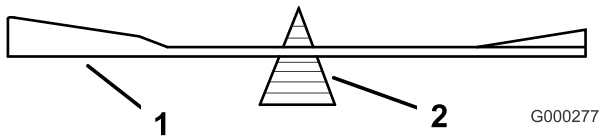
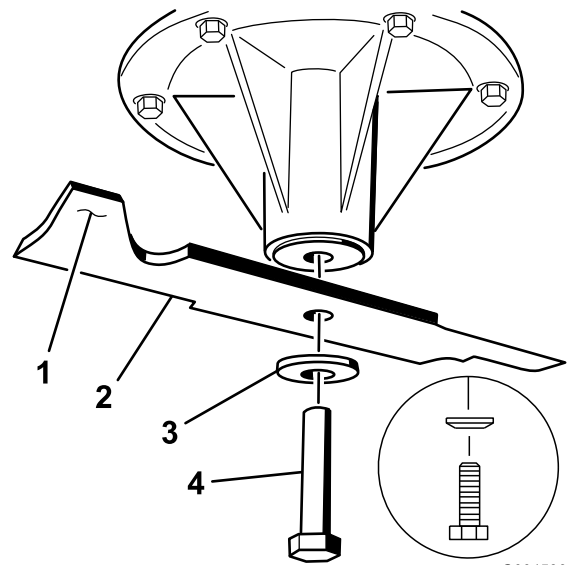

Figure 98
Figure 99
2. Check the balance of the blade by putting it on a blade balancer (Figure 98). If the blade stays in a horizontal position, the blade is balanced and can be used. If the blade is not balanced, file some metal off the end of the sail area only (Figure 99). Repeat this procedure until the blade is balanced.
1. Install the blade onto the spindle shaft (Figure 99).
2. Install the spring disk and blade bolt. The spring disk cone must be installed toward the bolt head (Figure 99). Torque the blade bolt to 85-110 ft-lb (115-150 N-m).